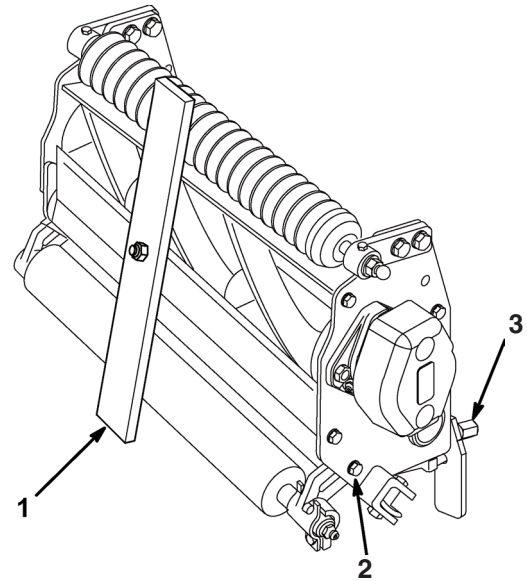

Figure 5
2. Turn the cutting unit over (90°) and rest it on the rear roller and top rear tabs. Loosen the locknuts on the capscrews that retain the rear roller brackets (Fig 5).
3. On a gauge bar (Part no. 13-8199), set the head of the screw to the desired height of cut (Fig 5). This measurement is from the bar face to the underside of the screw head.